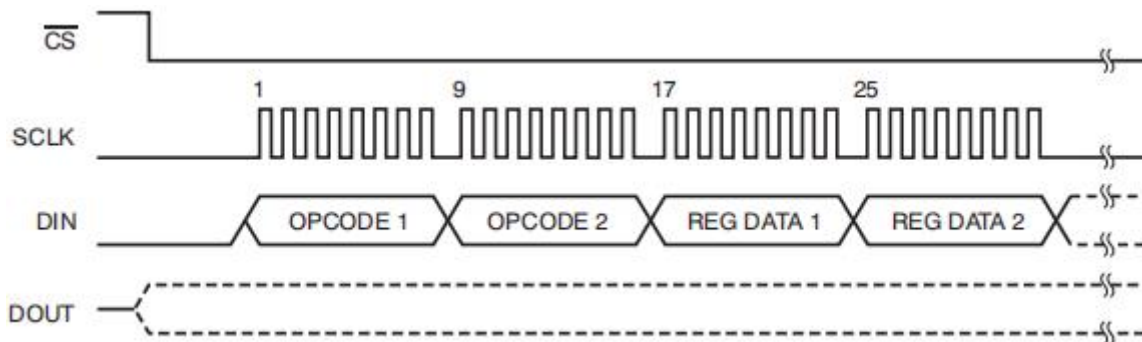

Figure 9.5.5 Example of WREG command: Starting from 00h (ID register), write two registers (BYTE 1=0100 0000, BYTE2=000000 1)
(11) WREG: Write Data to Register This command writes data to the register. The register write command is a two-byte command followed by the input of register data. The first byte contains the command and the register address. The second command byte specifies the number of registers to write, minus one. First command byte: 010r rrrr, where r rrrr is the starting register address. Second command byte: 000n nnnn, where n nnnn is the number of registers to write, minus one. Following the command bytes is the register data (MSB-first format), as shown in Figure 9.5.5. The WREG command can be issued at any time; however, since this command is a multi-byte command, it has an SCLK rate limit due to the need to meet the tSDECODE timing for SCLK issuance. Note that CS_ must remain low throughout the entire command duration.